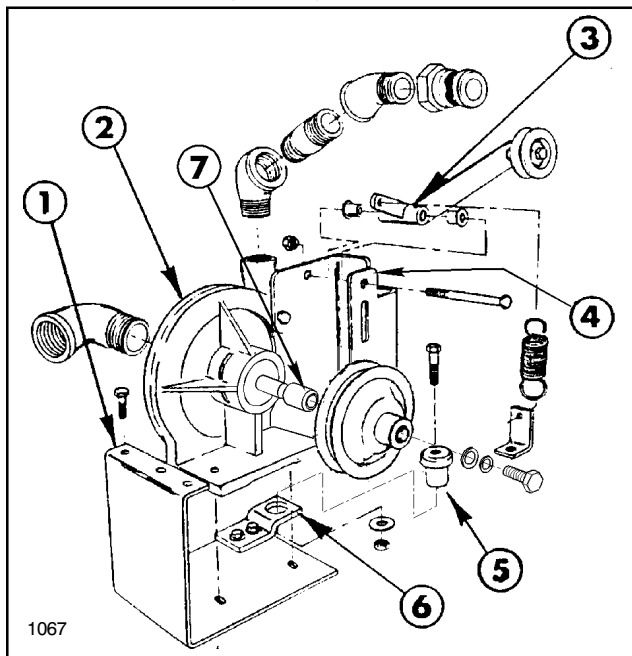
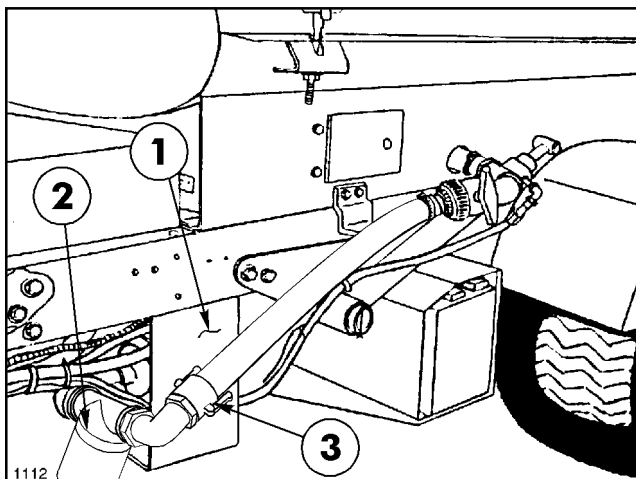

FIG. 1
FIG. 3
1. Slide the Pulley Spacer on the Pump Shaft. Install the square key into the centrifugal pump shaft key slot. Place the pump pulley on the pump shaft and secure to the shaft using 5/16" x 3/4" hex hd. cap screw, 5/16 I.D. 10 GA. flat washer, and lockwasher (FIG. 1).
2. Attach the idler pivot bracket to the pump by removing the two pump housing bolts and replacing with (2) 3/8" x 1" hex hd. cap screws. (See FIG. 1)
4. Mount the small inside idler pulley on the long arm of the idler pivot using the 3/8" x 2 3/4" hex hd cap screw, 7/8" spacer, and locknut. **Shim as required between Idler Pivot Ass'y and Inside Idler Pulley with the (3) 3/8" flat washer to align with Pump Pulley.** Attach the tension spring to the short arm of the idler pivot assembly (FIG. 1).
5. Apply sealer and install the 90 degree x 1 1/4" street elbow into the suction port of the pump. Apply sealer and install the 1" x 3" nipple, (2) 45 degree x 1" elbows, and quick adapter into the discharge port of the pump (FIG. 1).
6. Install the rubber mount into the tab mount and loose fit the tab mount to the pump mounting bracket using the (2) 3/8" x 1" hex hd cap screws, flat washers, and locknuts (FIG. 1).
7. Attach the pump mount bracket assembly to the left side of the vehicle frame using the (3) 5/16" x 1" hex hd cap screws, lockwashers, and hex nuts (FIG. 3). Next, attach the tab mount to the crossmember using the 3/8" x 1 1/2" hex hd cap screw, 3/8" I.D. 10 GA. flat washer, and locknut. See FIG. 1. Tighten all fasteners securely.
9. Mount the pump and the spring tab to the pump mount bracket using the (2) 3/8" x 1 1/2" hex hd cap screws, flat washers, and locknuts. Attach the spring to the spring tab located at the base of the pump (FIG 1).
10. Apply thread sealer and install the 1 1/4" close nipple, suction strainer, 90 degree st. elbow, reducing nipple, and quick adapter into the suction side of the pump (FIG. 3).